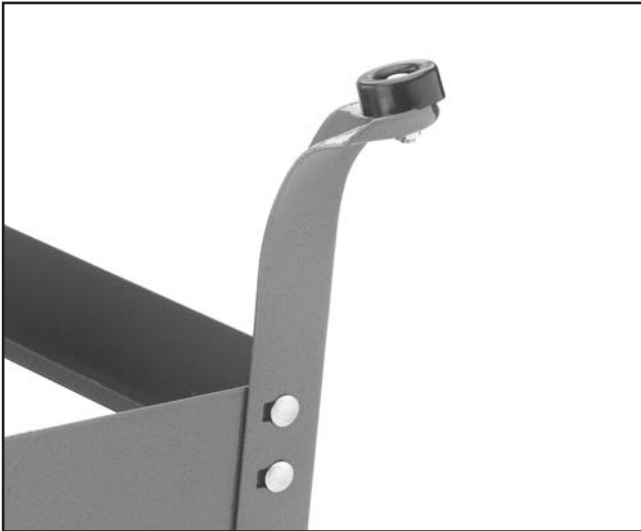

Figure 10. Rubber foot installed.
9. Install each rubber foot on the bottom of each leg. Thread on another $\frac{5}{16}$ "-18 hex nut to tighten the rubber foot to the leg as shown in **Figure 10**.